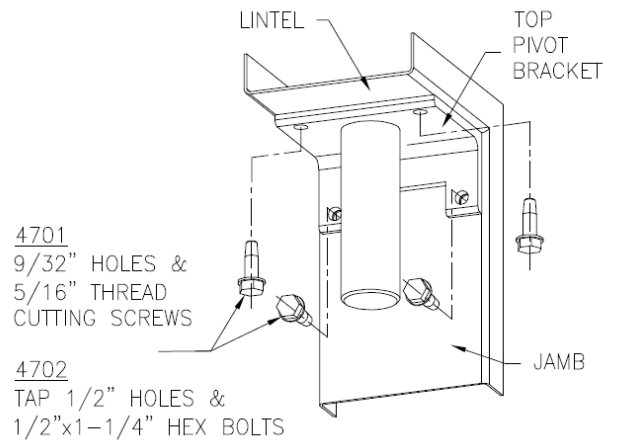

FIG. 3A
- **Place Top Pivot Bracket** at top of jamb (Figure 3a).